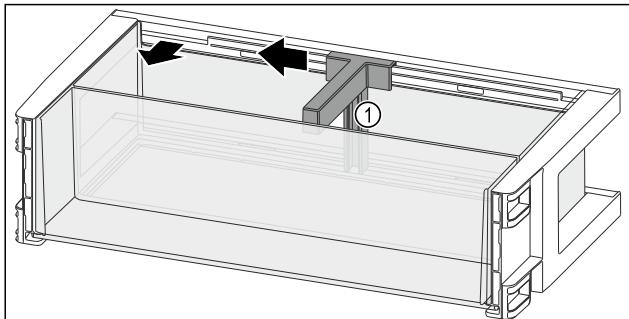

Fig. 121
- Slide the bottle holder Fig. 121 (1) to the side as far as the recess.
- Remove the bottle holder Fig. 121 (1).